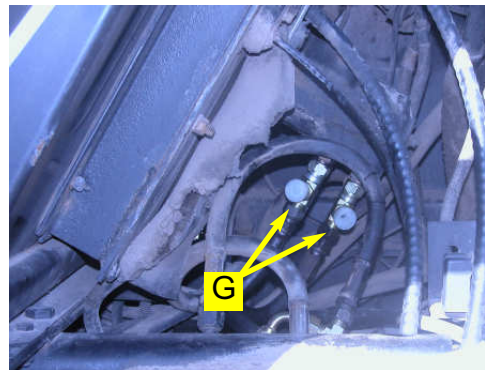

Figure 5b. Installed steering output run tees.
- b. Install the provided run tees (**G**) in the steering lines as shown. Use plastic caps to prevent excess leakage from the open run tee ports. (Figure 5b.)